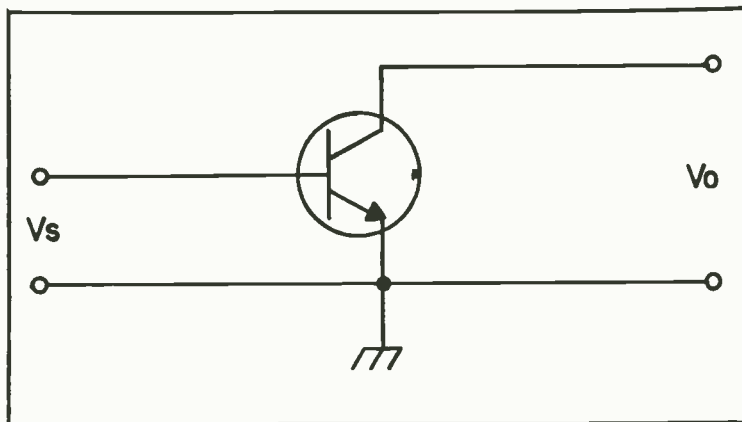

Fig. 4-3. Common emitter configuration.
Any of the three terminals of a transistor can be used as the common, or ground, connection. These three different classifications of amplifier circuits produce somewhat different properties, but are all used for one application or another. The circuit most commonly associated with amplifier is the *common emitter* (CE), which was used in the previous examples. This circuit is shown in simplified form in Fig. 4-3. The input signal  $V_s$  is applied to the base-emitter terminals, while the output signal is taken from across